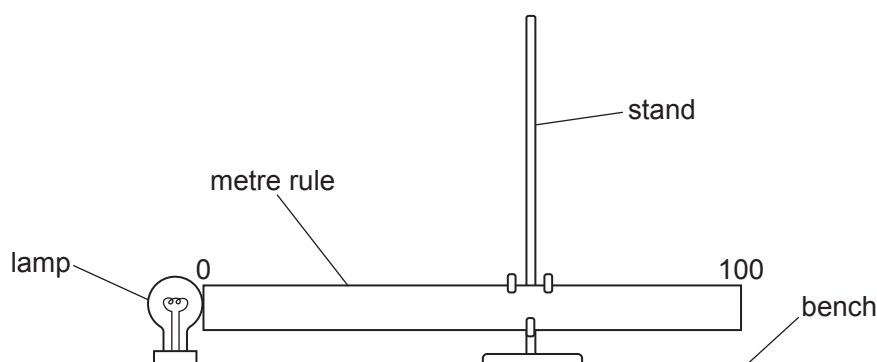

Fig. 6.1
1. The metre rule must be clamped with its zero touching the outer edge of the glass envelope of the lamp, as shown in Fig. 6.1.
Check that the rule and lamp are in the correct positions, as shown in Fig. 6.1, with the lamp switched off.